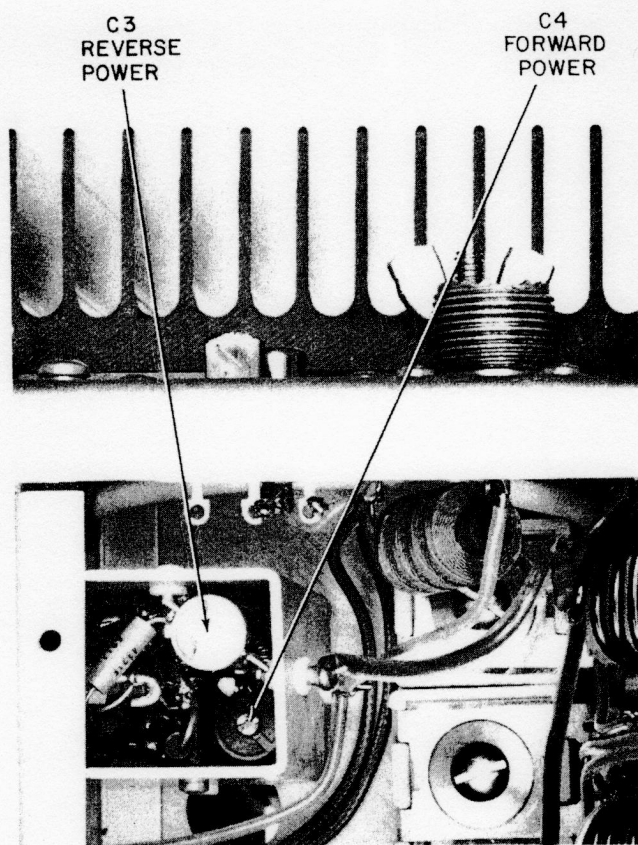

Figure 5-10. Reflectometer Adjustments
9. Adjust reflectometer assembly capacitor C3 (see Figure 5-10) for a "0" indication on the CX7 front panel meter.
11. Adjust reflectometer assembly capacitor C4 (see Figure 5-10) for a "4.2" indication on the CX7 front panel meter.